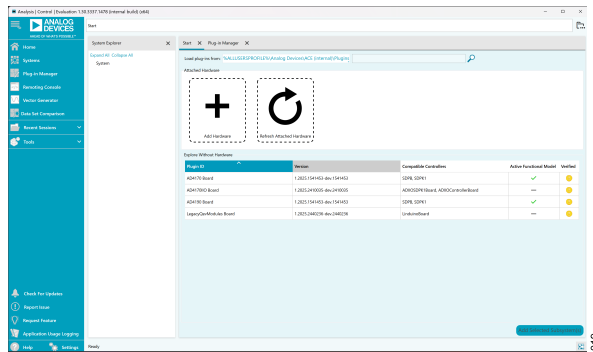

Figure 19. ACE Home Page
1. From the **Start** menu of the PC, select **All Programs > Analog Devices > ACE > ACE.exe** to open the ACE software main window, as shown in Figure 19.
2. If the EVAL-AD4190-4ARDZ is not connected to the USB port by the SDP-K1 when the software launches, the **AD4190 Board** icon does not appear in the **Attached Hardware** section in ACE (see Figure 19). To make the **AD4190 Board** icon appear, connect the EVAL-AD4190-4ARDZ and the SDP-K1 to the USB port of the PC, click **Refresh Attached Hardware**, wait a few seconds, and then follow the instructions in the dialog box that appears.